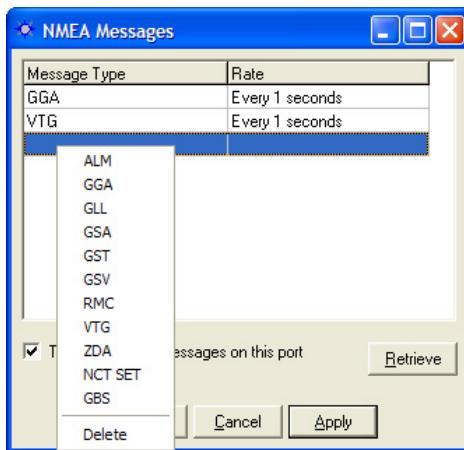

Figure 101: NMEA Message Type Menu
- ✓ Right-click in a blank *Message Type* cell. A menu opens with a list of messages (see Figure 101).